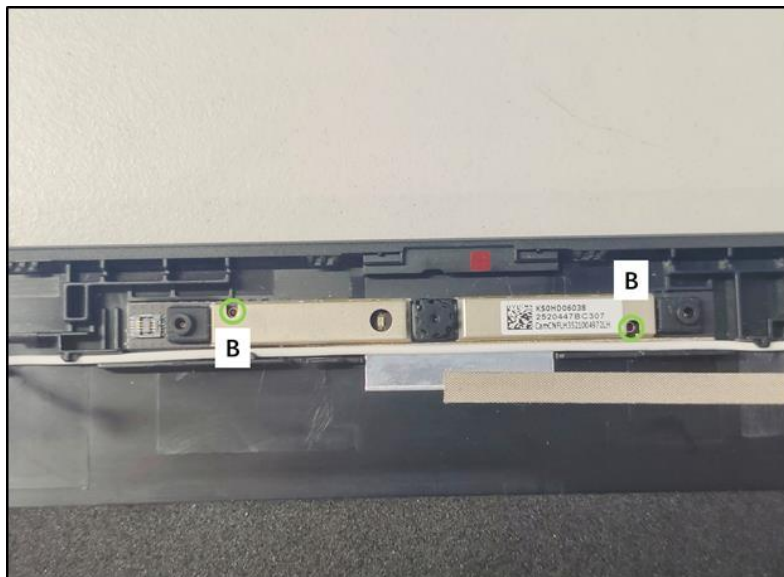

Figure 3-57. Camera Module Removal
3. Lift the camera module to release it from the guide pins (B) (Figure 3-57). Then remove the camera module from the LCD bezel.